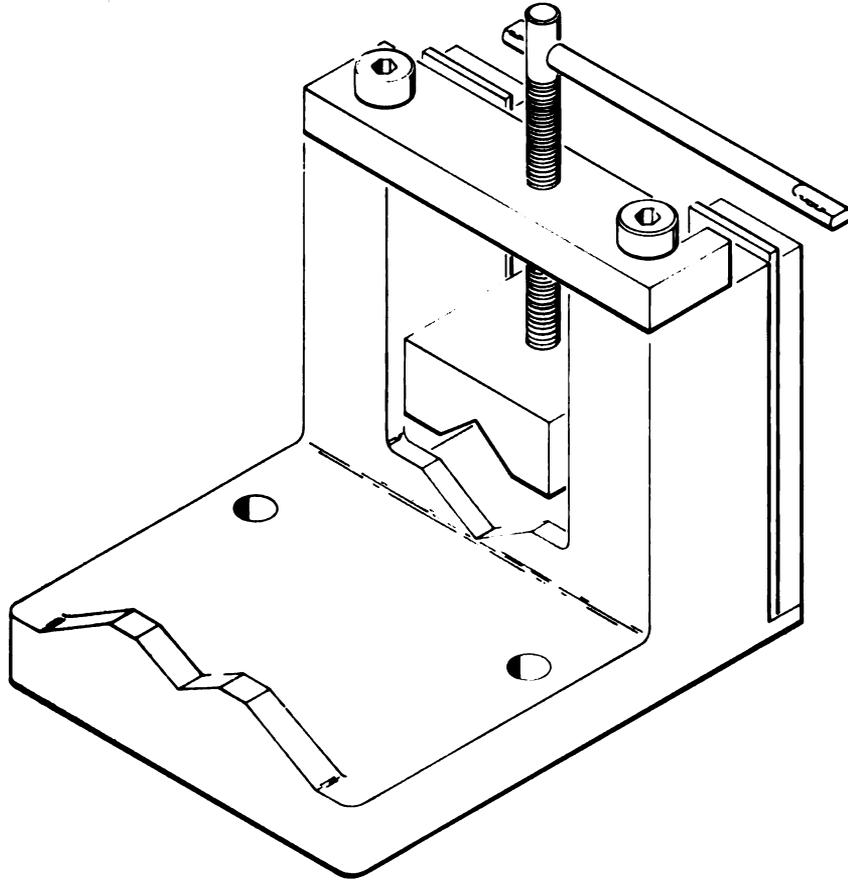

Figure 1-15. Crosscut Vise.
(1) *Tube cutting.* A crosscut vise (see figure 1-15) is provided in the HSTRU to hold tubing to assure a square cut with a hacksaw. This vise may be placed on a work table or clamped in the machinists' vise which is mounted at the back of the trailer.